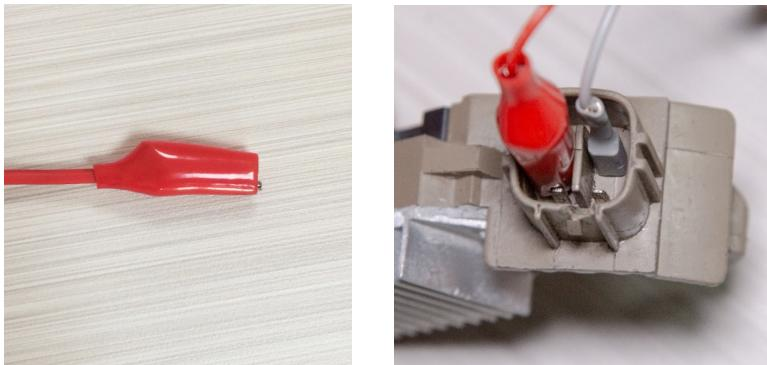

Figure 27. Connector terminal connection
**WARNING!** Be cautious when connecting the crocodile clips with the connector - to prevent the regulator from the damaging. Use the crocodile clip completely isolated (fig. 27) or use the relevant wire (fig. 5).